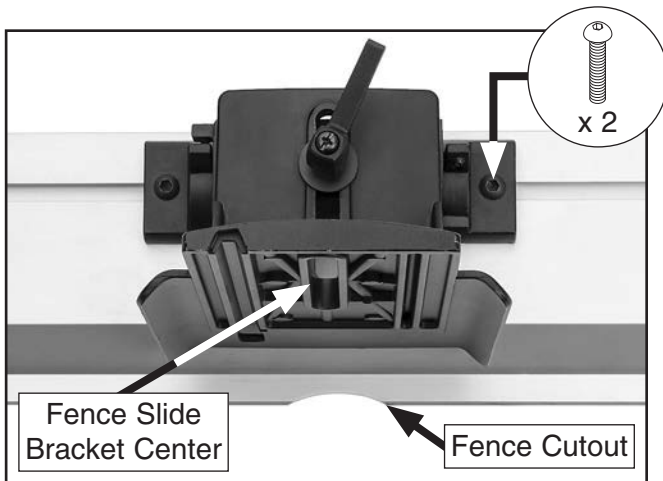

Figure 12. Fence cutout and slide bracket.
4. Align fence cutout with center of fence slide bracket, and tighten (2) button head cap screws (see **Figure 12**) installed in **Step 2**.